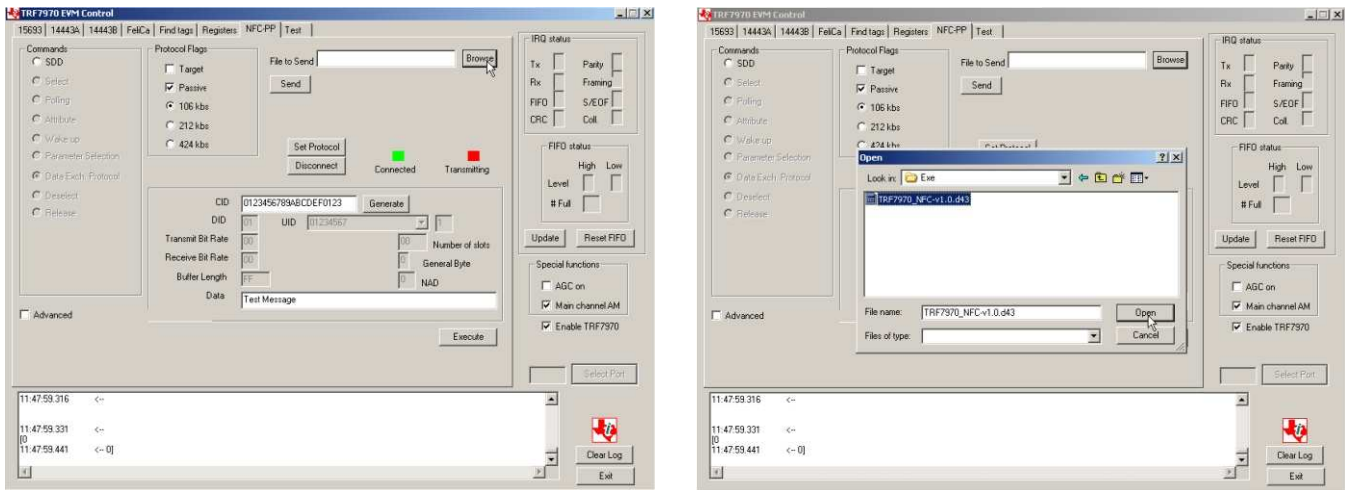

Figure 35. NFC File Transfer, Select File on Initiator
2. Click Open (see Figure 35).